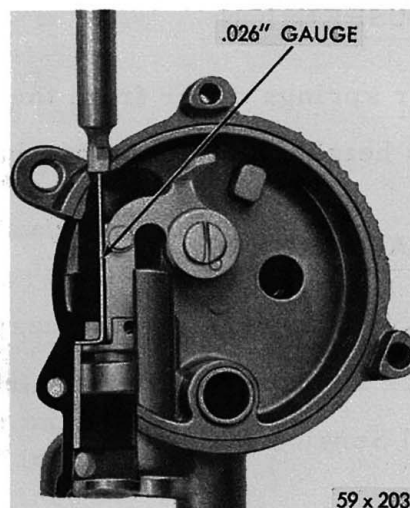

Fig. 11-Indexing the Choke Piston
- (1) Remove the choke housing baffle plate.
- (2) Remove the throttle return spring, so that the throttle can be set at one quarter open.
- (3) Be sure the choke valve is wide open.
- (4) Slide a .026 inch wire into the choke piston slow, so that the hook on the end enters the slot in the cylinder, Figure 11. (This gauge can be made by bending the .026 inch end of wire gauge Tool T-109-189 to form the shape, as shown in Figure 11.)
- (5) Push on the choke valve, counterclockwise, trapping the wire gauge between the piston and the cylinder slot (choke linkage hanging free).